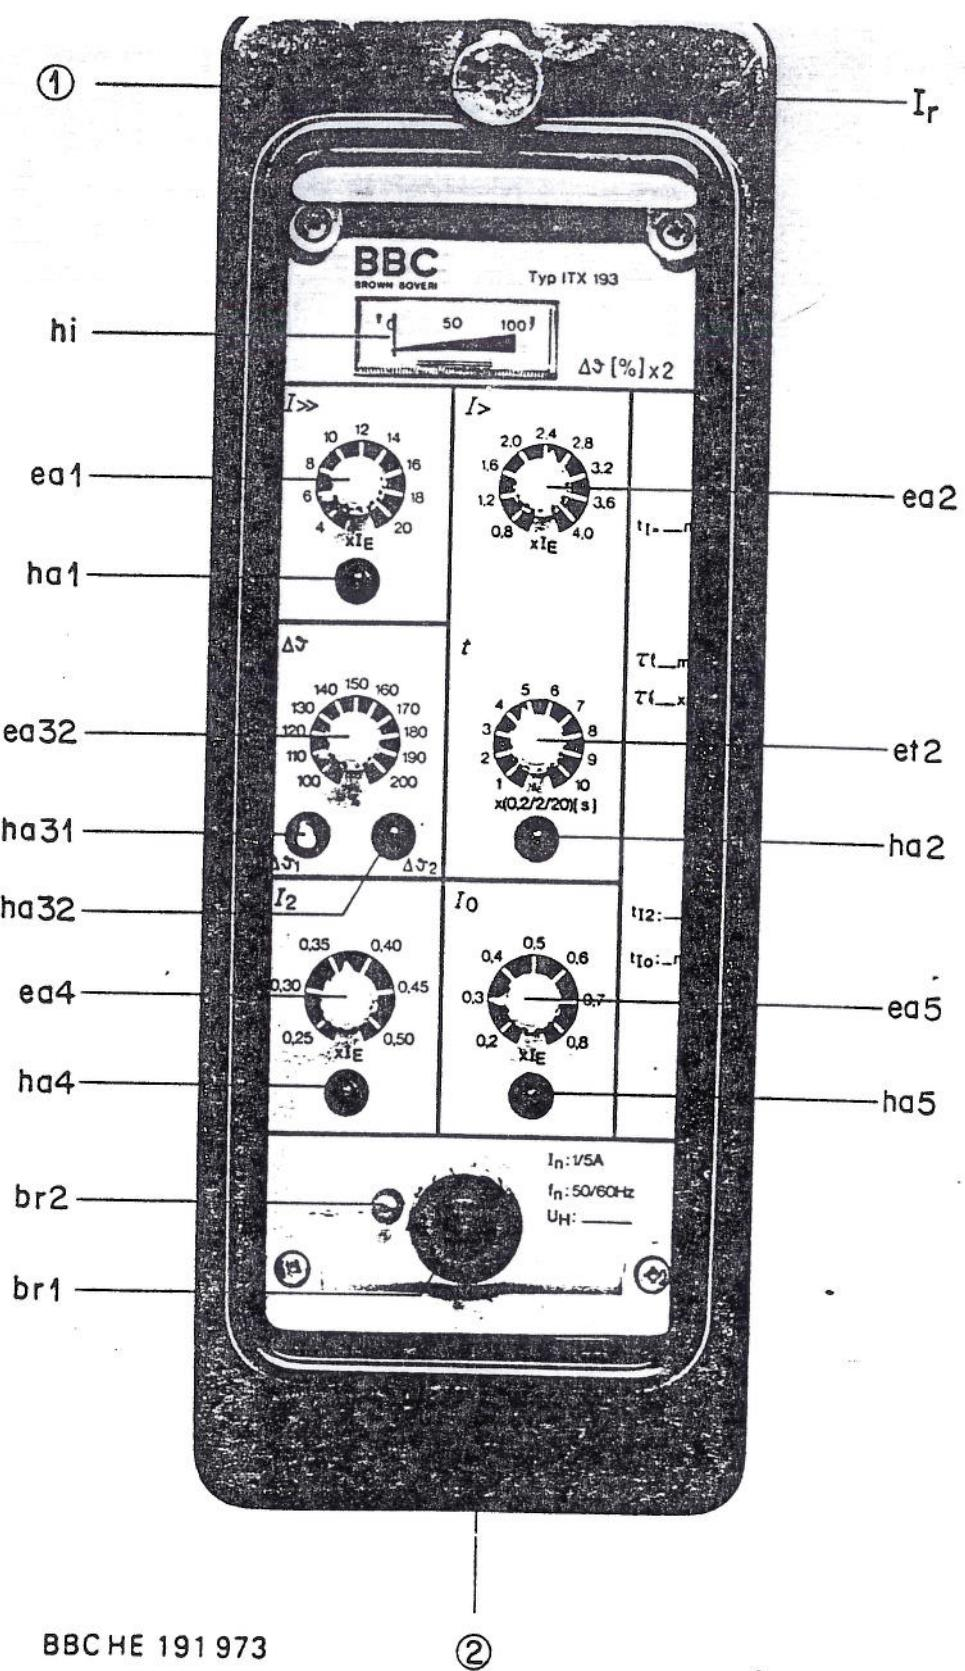

Fig.9 - Front view of the motor protection relay type ITX193
- Test the LED signals of relays equipped with them by pressing the button brl (section 10, Fig. 9). All the LED's on the frontplate (ha...) must light up.
- Photographs Figures 9 to 13